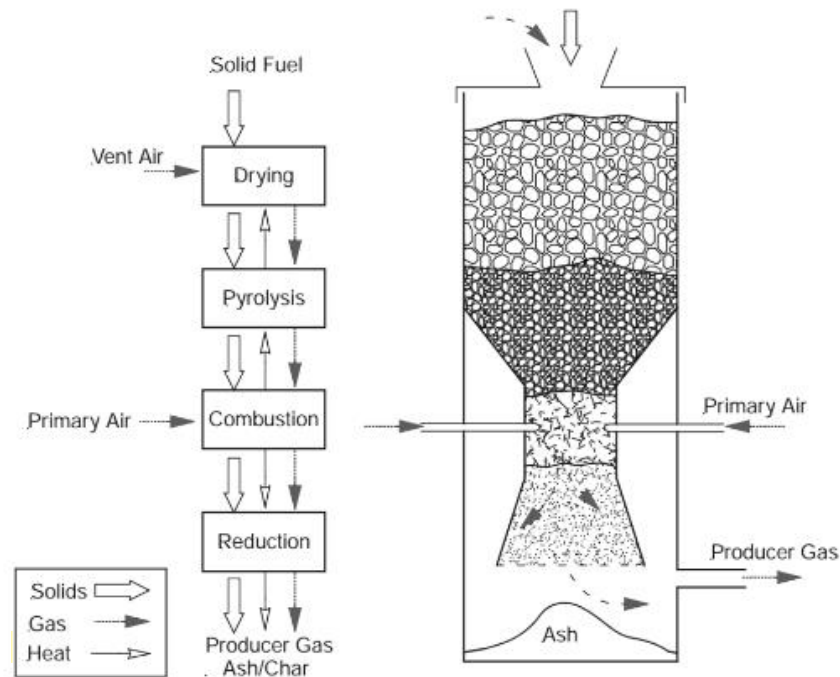

Figure-6: Downdraft gasifier.
- ✓ the schematic diagram of the system is shown in **Figure-6**